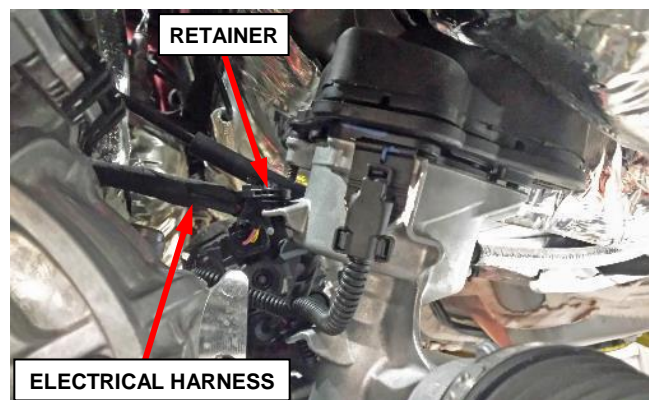

Figure 79 – Electrical Harness Retainer
56. **AWD/4WD only:** Release the vehicle wire harness retainer from the steering gear housing (Figure 79).
14. **AWD/4WD only:** Attach the vehicle wire harness retainer to the steering gear housing (Figure 79).